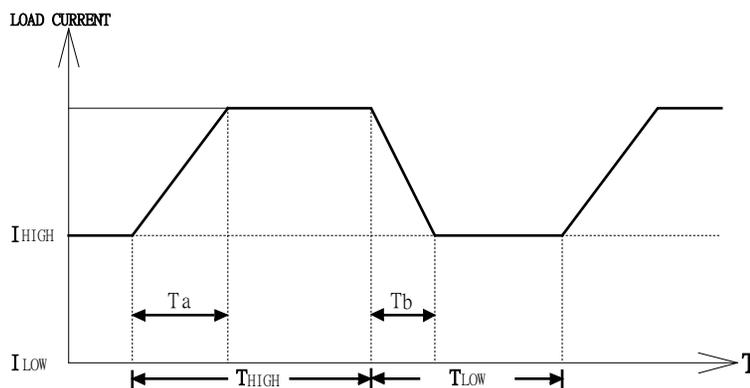

Fig 5-4 Dynamic load current with independent programmed Rise/Fall slew rate
i. Built-in Pulse generator: (Fig 5-4)
ii. Analog programming input: (Fig 5-4)